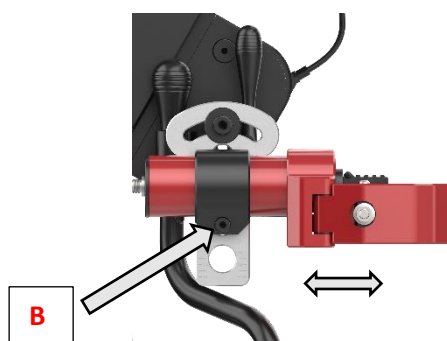

Figure 33. Showing the Depth adjustment of the Clamp mechanism in relation to the device.
**Attention.** The recommended Torque setting of this angle and depth adjustment Bolt B is 25 Nm (Newton Meters). See Fig 33 above.